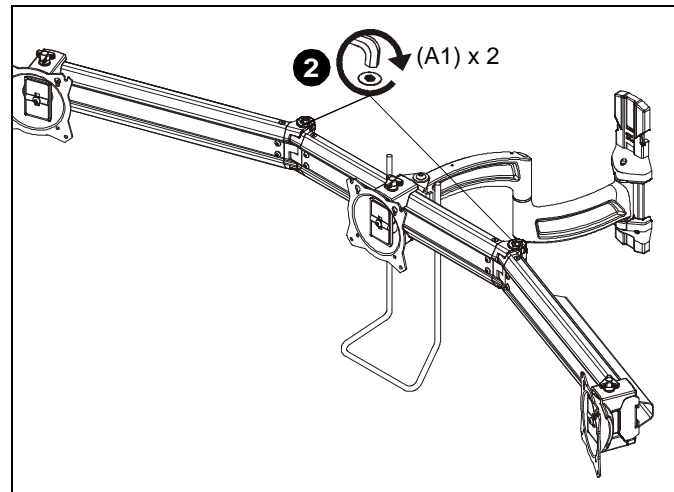

Figure 19
1. Array arms may pivot toward the front of mount up to 20° per arm. (See Figure 19)
2. When arms are at desired pivot position, lock pivot position by tightening 3/8-16 x 2 3/4" socket head carriage screws (A1) using 5/16" hex key (E5). (See Figure 19)